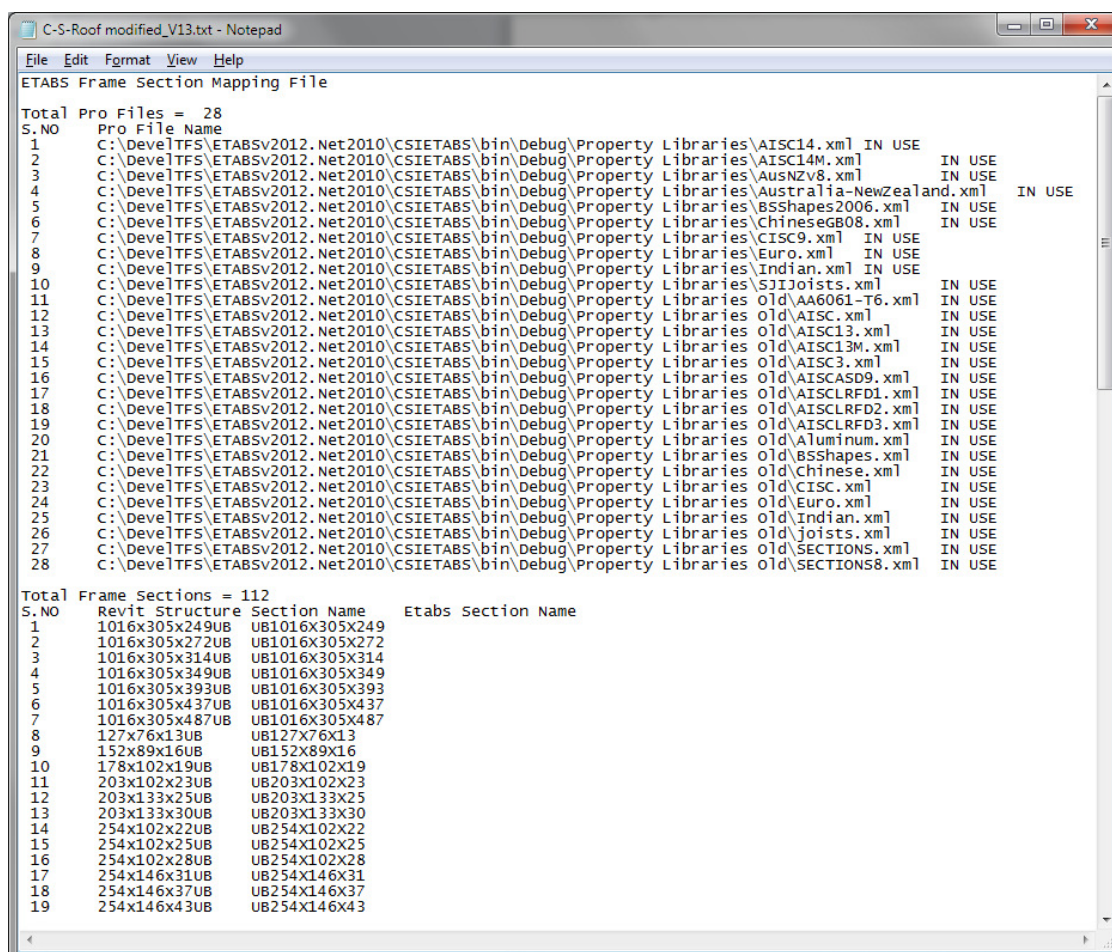

Figure 3: Section mapping file
- 5) The user has the option to save a mapping file which can then be reused on subsequent imports. A sample mapping file is shown in Figure 3.